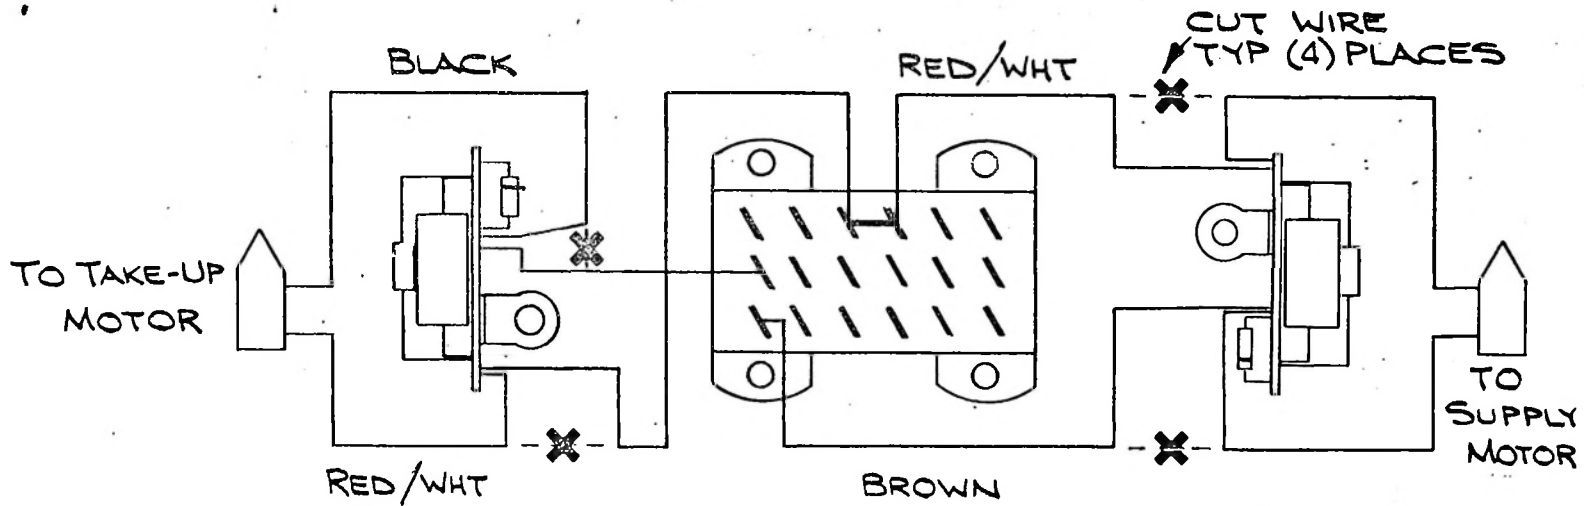
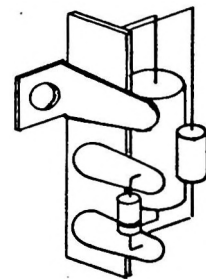

FIG 4
FIG 3
3. Mount the two sub-assemblies (Fig. 3) with the large components turned AWAY FROM the power plug. (See Fig. 4)
4. Unplug the connector to the Supply motor. Cut both wires and reconnect as shown in Fig. 4. Replace the Supply motor connector.
5. Unplug the connector to the Take-up motor. Cut both wires and reconnect as shown in Fig. 4. Replace the Take-up motor connector.